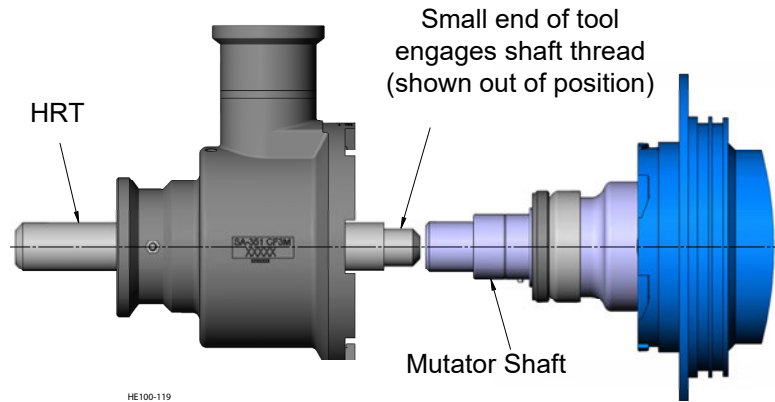

Figure 28 - Use of Head Removal Tool (HRT)
7. Insert the HRT as shown in Figure 28 and slide the head and bearing off the shaft to protect the stationary seal face during disassembly.